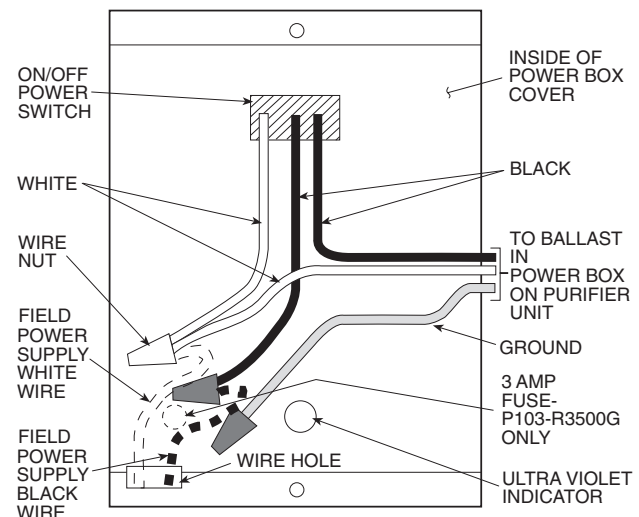

Fig. 3 — Wiring Diagram (P103-R1500G Shown)
7. Connect the white wire on the purifier to the white wire of the power supply using field-supplied wire nut. Connect the black exposed wire on the purifier to the black wire of the power supply using field-supplied wire nut. Add a wire nut to the green ground wire. See Fig. 3.